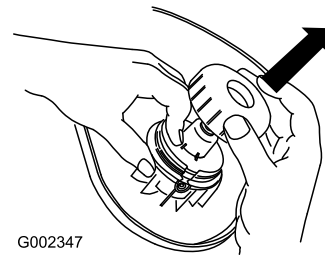

Figure 10
2. Remove the cap and spool (Figure 10).